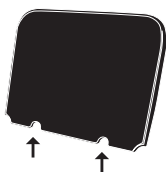
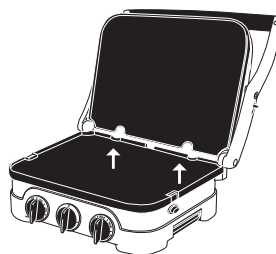

Fig. 1
Fig. 2
4. Align the two cut outs at the back of the plate (See Fig. 1) with the brackets on the bottom of the housing base (See Fig. 2). Tilt the plate and slide it underneath the bracket. Push down the front end of the plate until it locks into place.